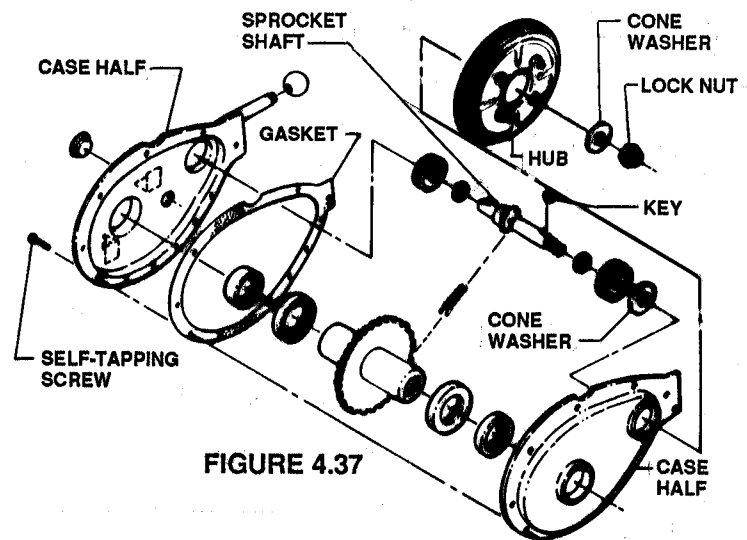

FIGURE 4.37
1. Disassemble Chain Case as shown in Figure 4.37. Remove 5/8" hex lock nut, cone washer, driven disc hub, woodruff key, and remaining cone washer from the sprocket shaft. Remove the 10 self-tapping screws to open case for access to internal components. Always thoroughly clean and carefully inspect all internal components. Replace any damaged or worn parts and prelubricate before reassembly.